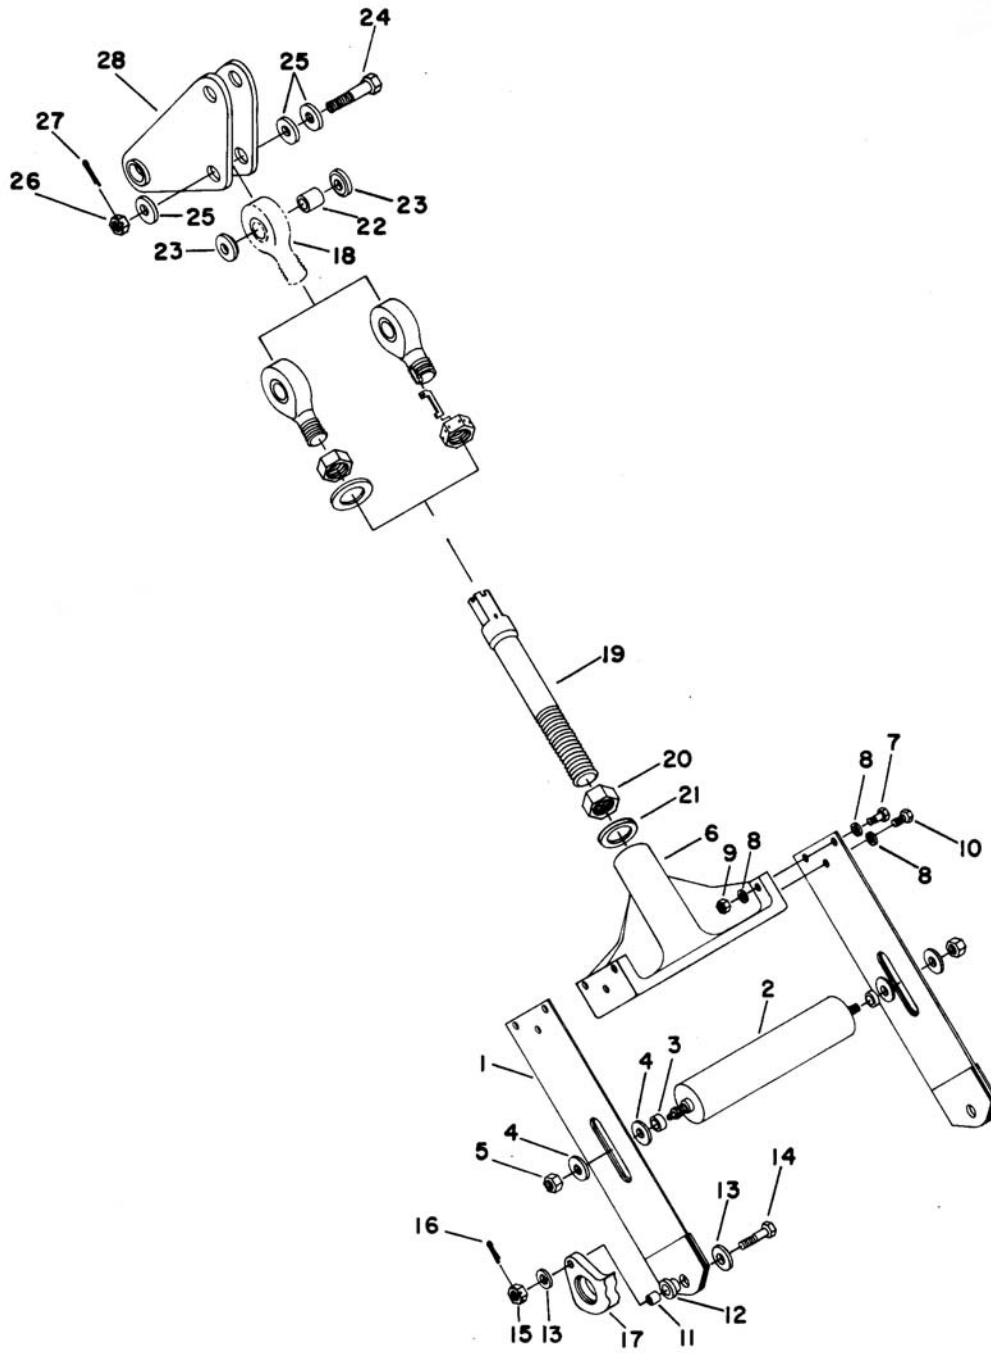

FIGURE 1
- (a) A redesigned P/N 28-13318 actuator arm (1) (ref. Figure 1) made of laminated steel to provide a structure that will resist damage that may occur from a misrigged belt or idler roller.
- (b) An improved rod end and shaft assembly (ref. Figure 1) connecting the belt engaging bellcrank to the yoke end.
7. Remove 28-13217 shaft (19) from 28-13299 yoke end, and discard shaft. (Ref. Figure 1)
8. Disconnect the actuator arms (1) from the 28-13299 yoke end and discard arms.
## B. Assembly (Ref. Figure 1)
13. Check clutch engagement rigging, per Enstrom Service Information Letter 0080A. With clutch engaged and rigged, position roller assembly (2) (Figure 1) parallel, with 1/4 to 3/8 inch clearance from belt inner surface, and secure hardware. (Ref. Enstrom Maintenance Manual page MM-8-12.)
15. Secure rod end (18) to bellcrank (28) and install pin (27). Recheck all hardware security. (Ref. Figure 1)
## PARTS LIST - FIGURE 1